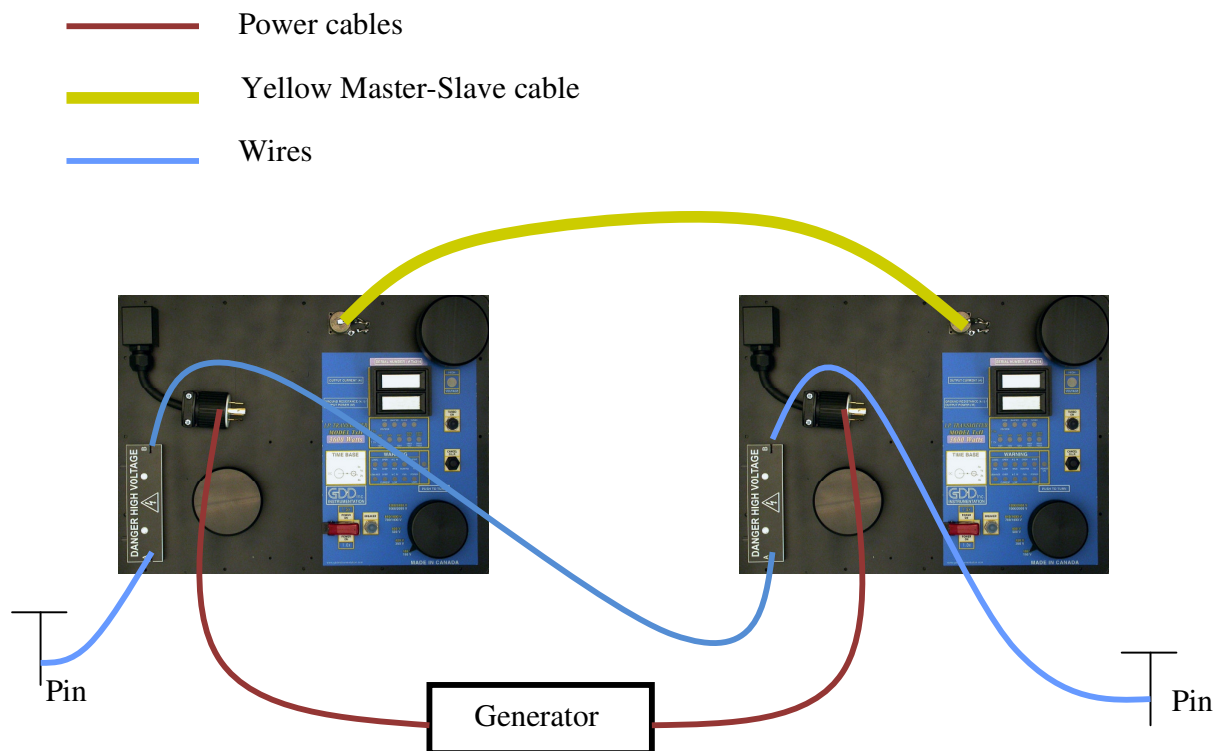

Figure 2 : Master/Slave system diagram
1. Connect the yellow synchronization cable (Master/Slave) to the transmitters. The Master/Slave cable terminations are different: one is labeled *MASTER* and the other one *SLAVE*. The transmitter is *MASTER* or *SLAVE* according to the termination of the cable connected on his interface. The *MASTER* and *SLAVE* LEDs indicate the mode of each transmitter. (see figure 2, yellow line)
2. Connect an insulated wire between the terminal (A) of one transmitter and the terminal (B) of the other one. (see figure 2, blue line)
3. Connect the two power cables from the transmitters to the generator. (see figure 2, red lines)
4. Drive the electrodes into the ground and connect them to the unused terminals (A) and (B) by using insulated wires. (see figure 2, blue lines)